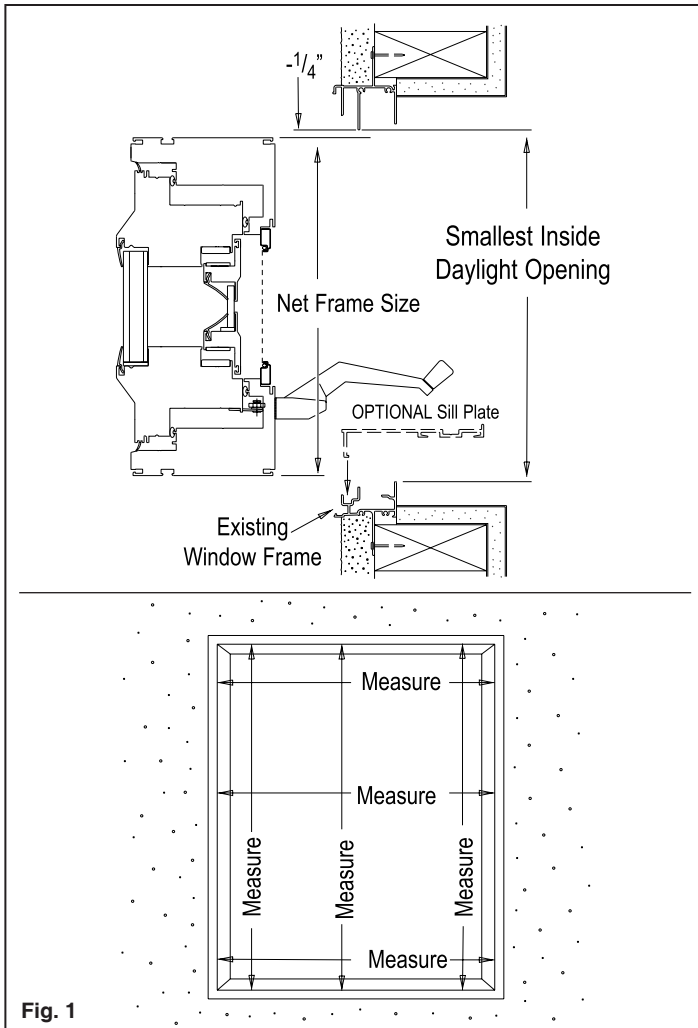

Fig. 1
A. Measure the opening in your existing window. The narrowest measurements in your window opening, excluding the fixed and sash panels, will be the "daylight opening". Measure existing daylight opening at the ends and the center. See **Fig. 1**. Deduct 1/4" from both